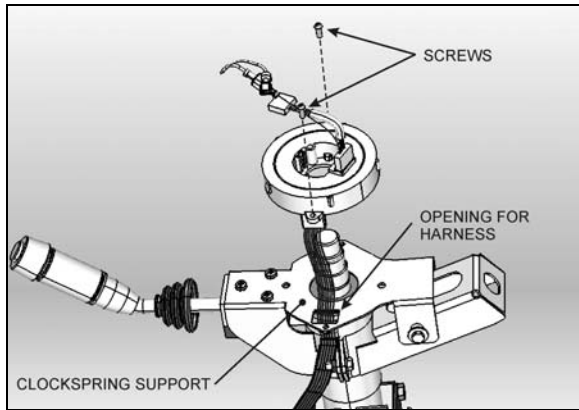

FIGURE 13: CLOCKSPRING INSTALLATION
3. Route the new clockspring harness through the opening in the clockspring support (Fig. 13). Plug the connector at the base of the steering wheel column and fix harness along the steering wheel column.